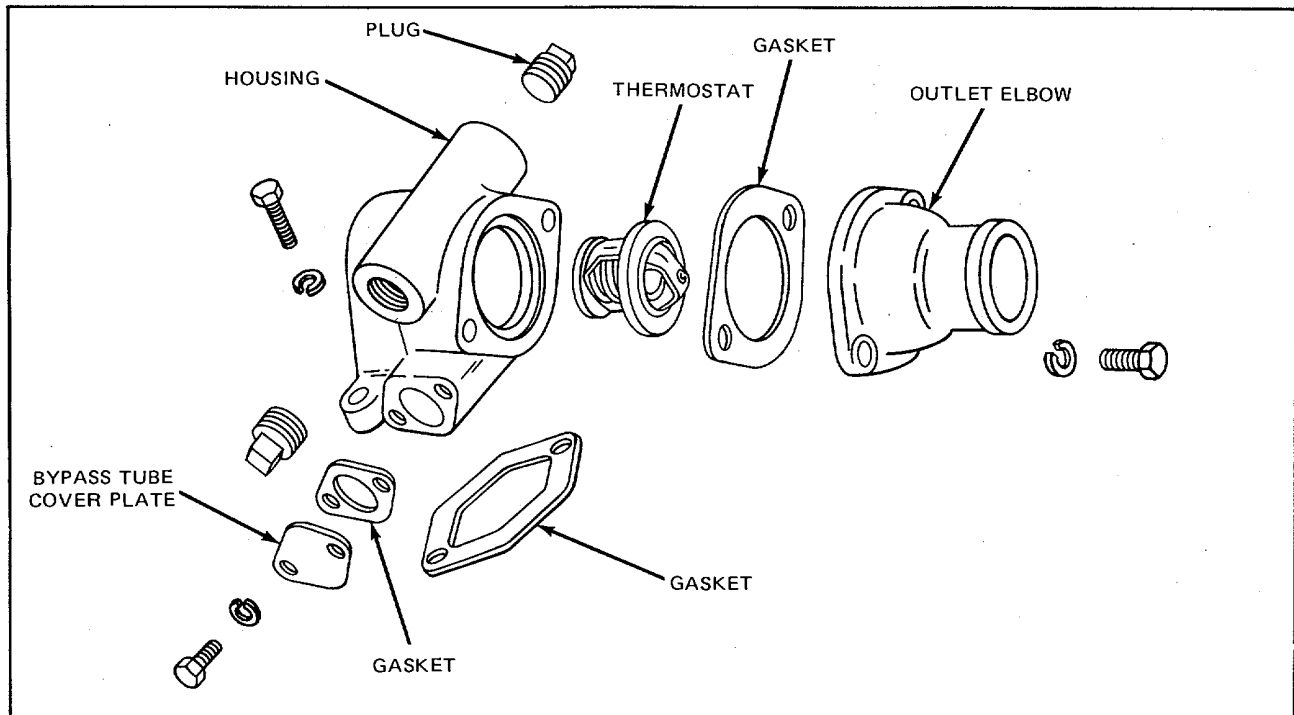

Figure 1. Thermostat Housing Details and Relative Location of Parts
3. Loosen the bolts and remove the water-outlet elbow from the thermostat housing on the in-line engine (Fig. 1). Take out the thermostat.